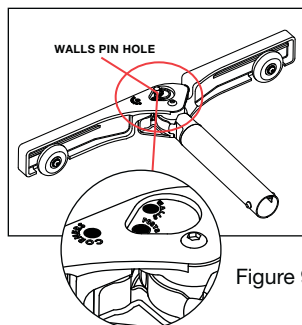

Figure 9
A. For normal stretching, the tail block should stay flat against the wall, and the tube should pivot freely to permit angle stretching. Remove the lock pin, extend the legs into a flat orientation and insert the pin into the back hole marked "WALLS". (See figure 9.)